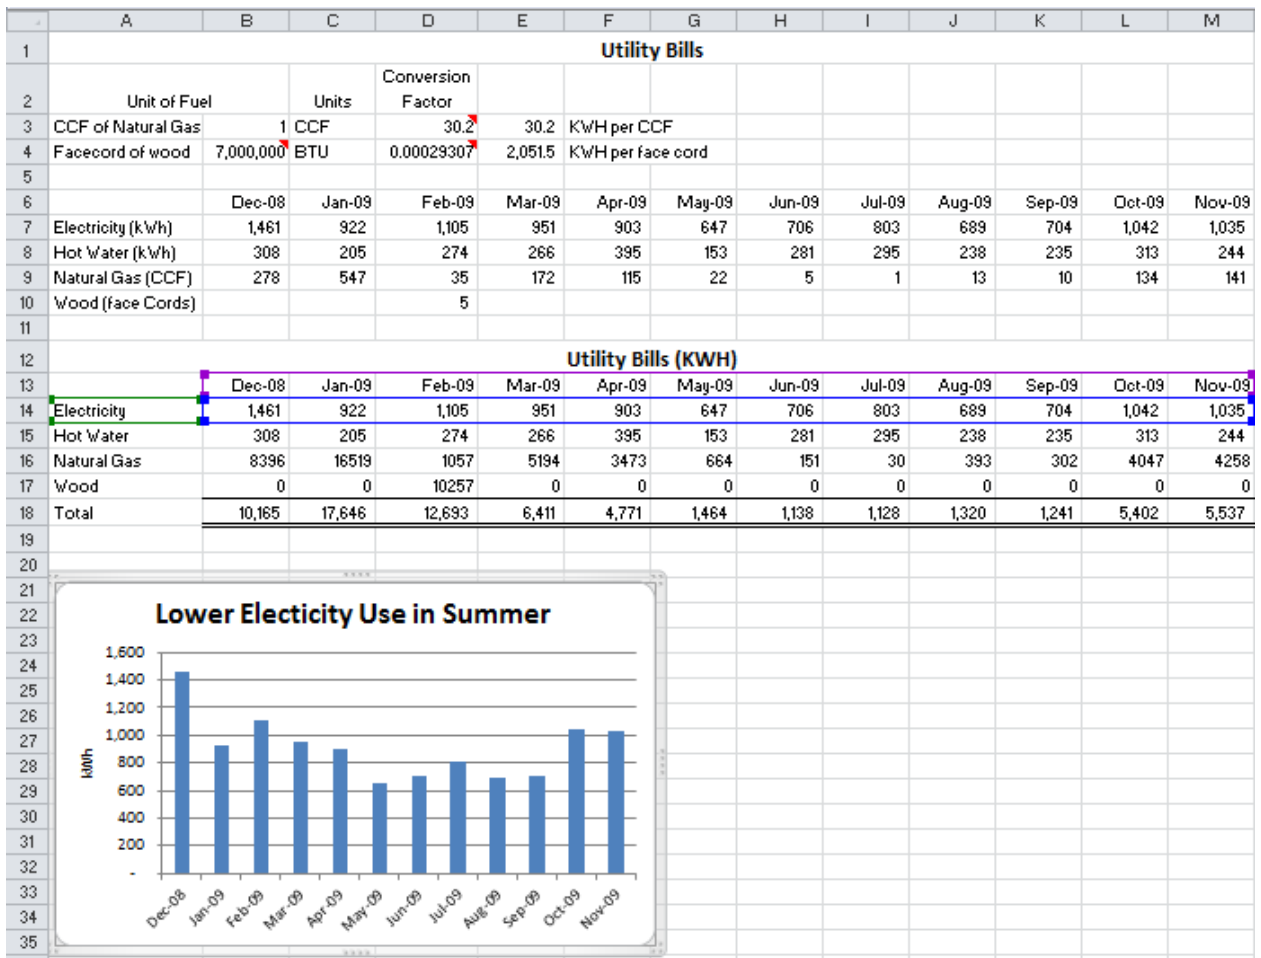

Figure 3.22. Place chart below the data.
12. Move the pointer onto the chart where it becomes a four-headed arrow. Drag the chart below row 21. Compare your chart with Figure 3.22.